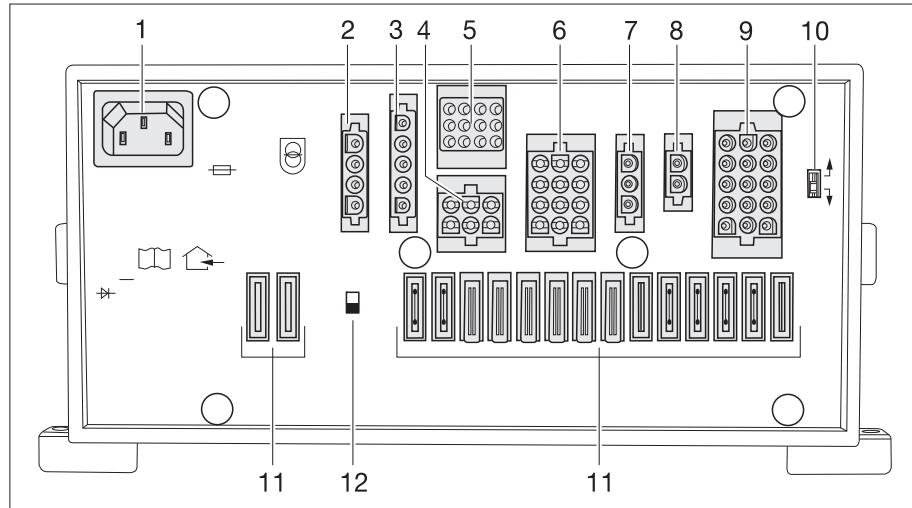

Fig. 241 Transformer/rectifier (EBL 119)
- ▷ The battery cut-off switch (Fig. 241,12) disconnects all the appliances that are connected to the transformer/rectifier from the 12 V network.
- ▶ If the battery selector switch (Fig. 241,10) is set incorrectly, oxyhydrogen gas (exploding gas) can form. Danger of explosion!
The battery selector switch (Fig. 241,10) is used to set the charger module in the transformer/rectifier to the type of living area battery installed in the vehicle ("lead acid", "dryfill" or AGM).